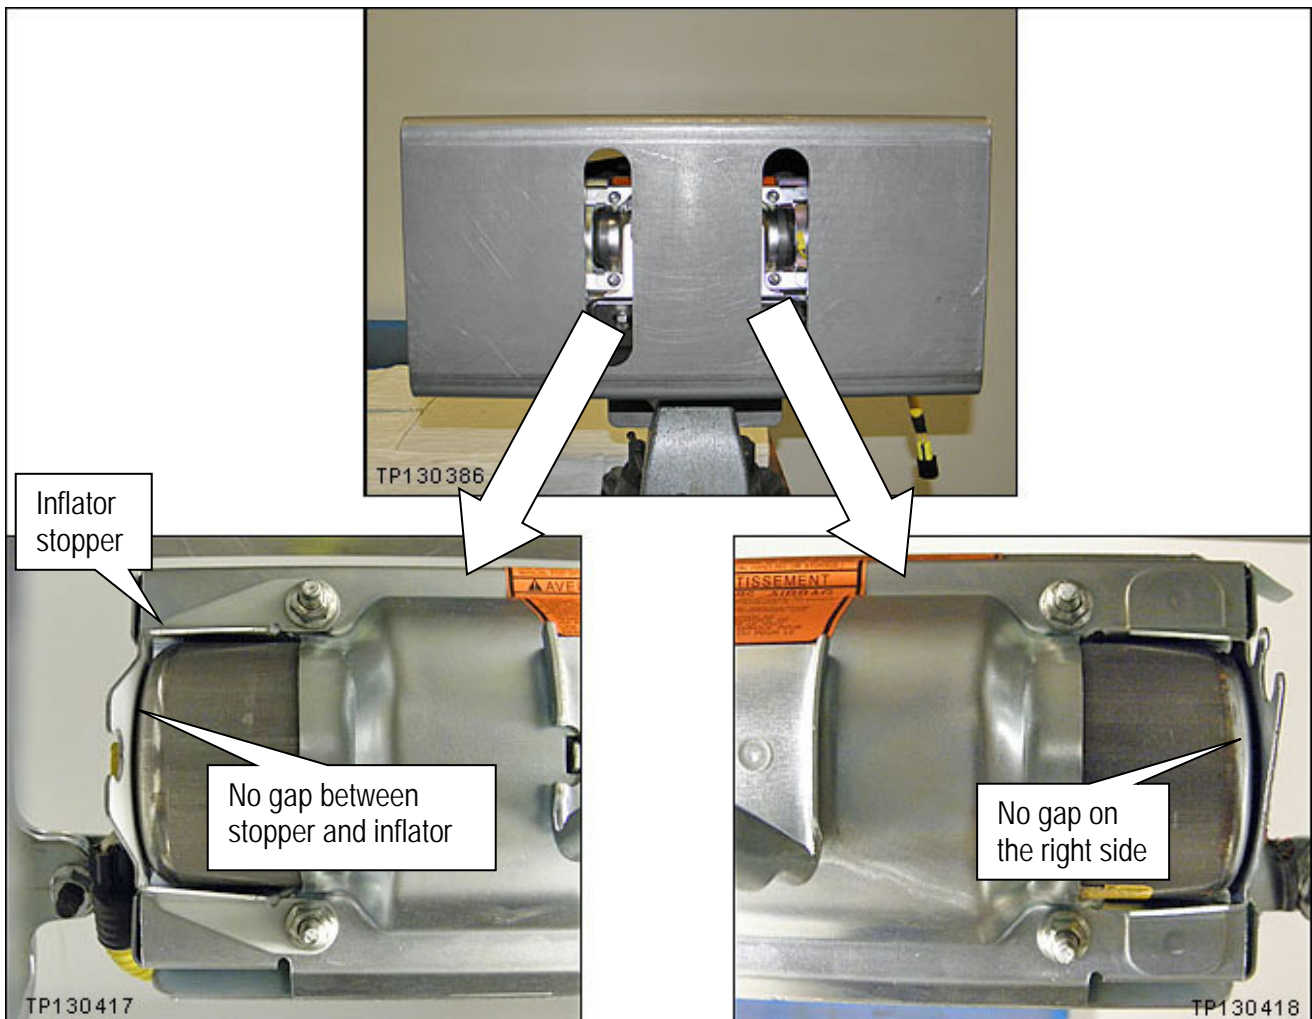

Figure F15
31. Install the inflator stopper and 4 inflator securing nuts finger tight (see Figure F15).
32. Make sure the inflator is pushed all the way into its housing – no gap on the right side (see Figure F15).
33. Make sure there is no gap between the inflator stopper and the inflator on the left side (see Figure F15).